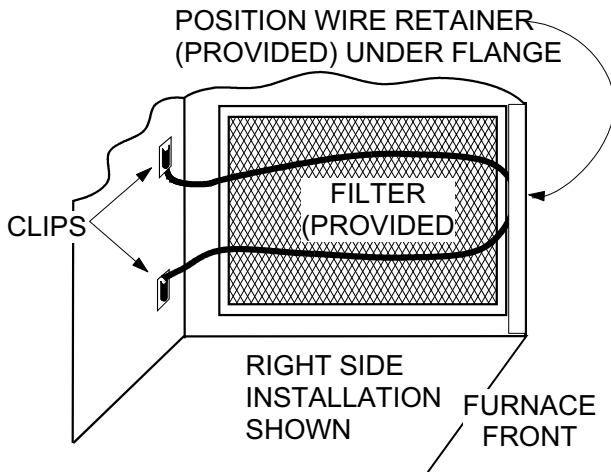

FIGURE 4 : SIDE FILTER RETAINER PLACEMENT
3. Install the wire retainer inside the cabinet. Insert the open ends of the wire retainer into the clip loops at the rear of the blower compartment. The retainer wire should pivot freely like a hinge, on the clips at the rear of the cabinet. (Refer to Figure 4 on page 10).